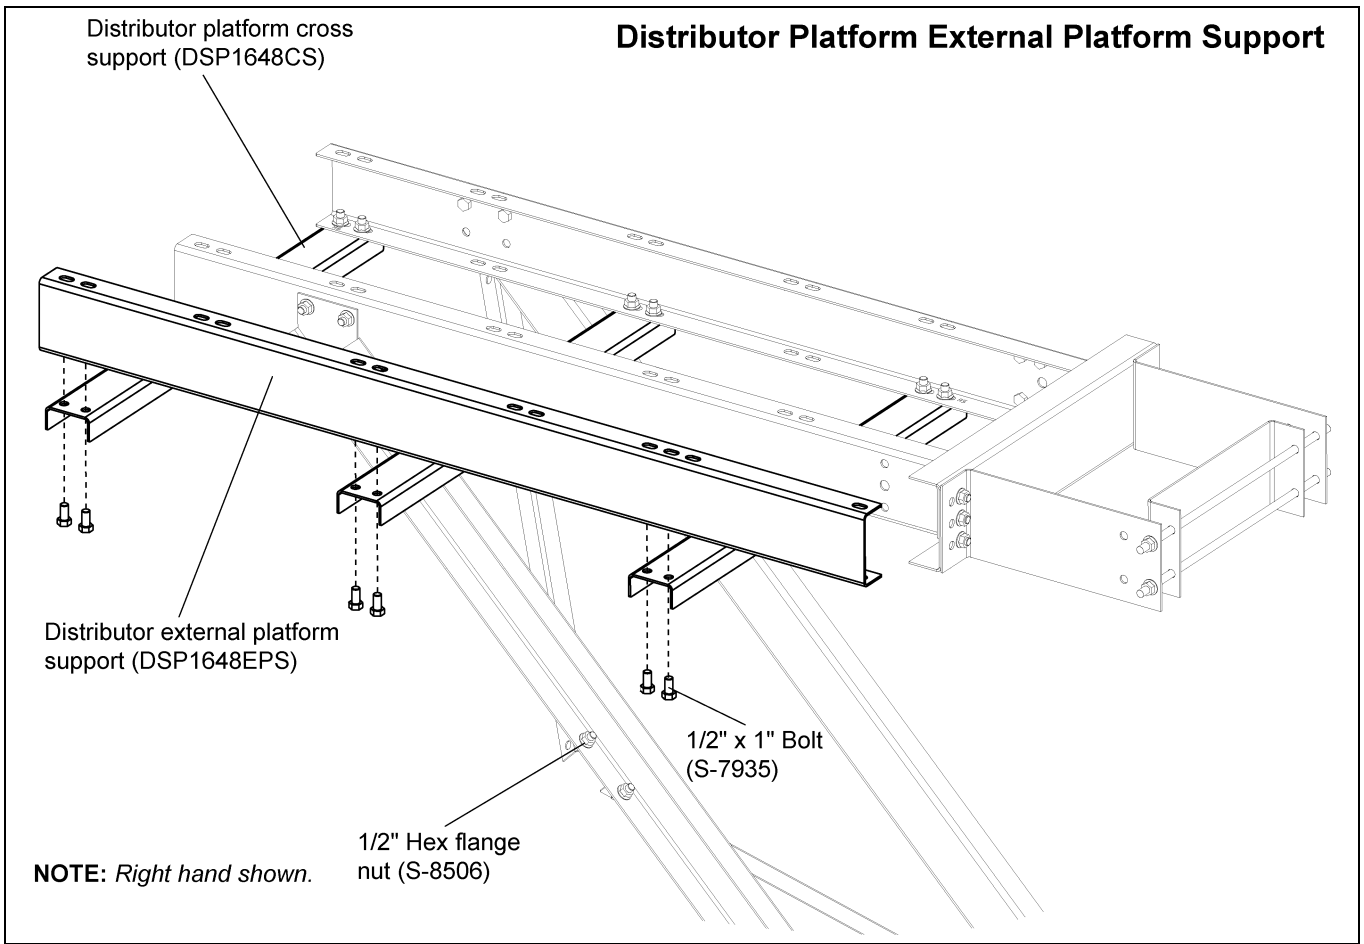

Figure 12C Distributor External Platform Support
3. Assemble the external platform support (DSP1648EPS) to the end of the three (3) cross supports using six (6) 1/2" x 1" bolts and nuts. (See Figure 12C on Page 95.)